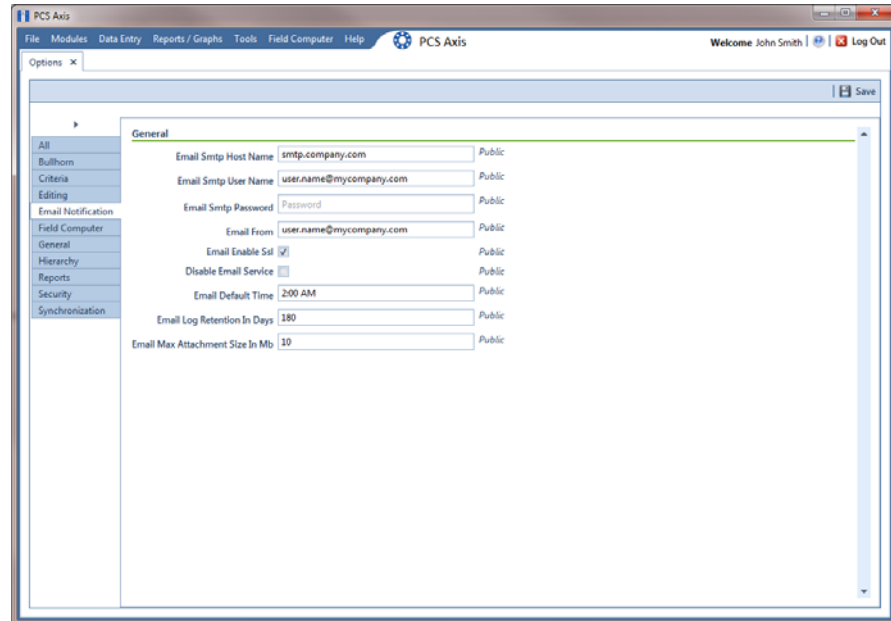

Figure 11-16. Options / Email Notification
- b** Click the **Email Notifications** tab to view property settings for *Email Notification* (Figure 11-16, page 469).